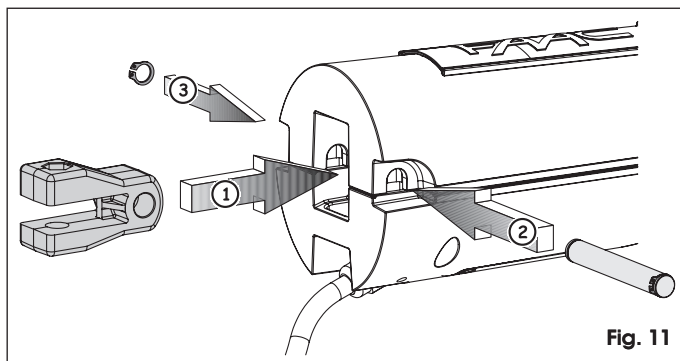

Fig. 11
3. Secure the rear fitting of the operator as indicated in figure 11.